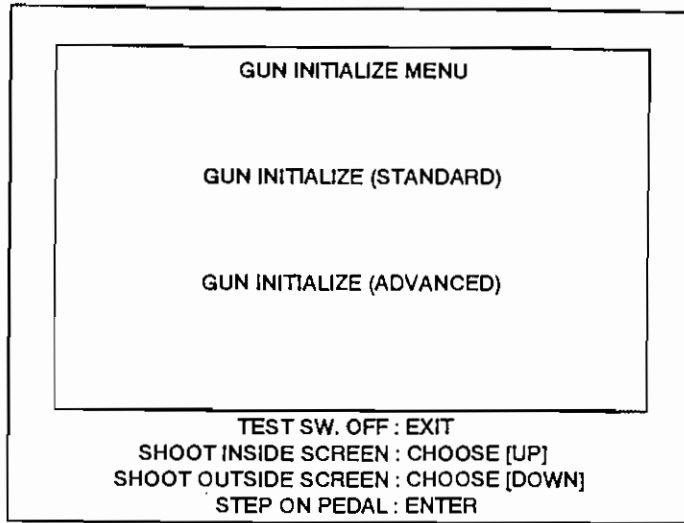

Fig. 6.13 Gun Initialization Menu Screen
- 1) If the test switch is turned ON while pressing the service switch, the gun initialization menu screen is displayed. (Fig. 6.13)
- 7) If the service switch is pressed, the gun initialization menu screen (Fig. 6.13) returns.
If the pedal is stepped on or the service switch is pressed, the gun initialization menu screen (Fig. 6.13) returns, and if the initialization is still not proper, select gun initialize (advanced) and perform initialization again.